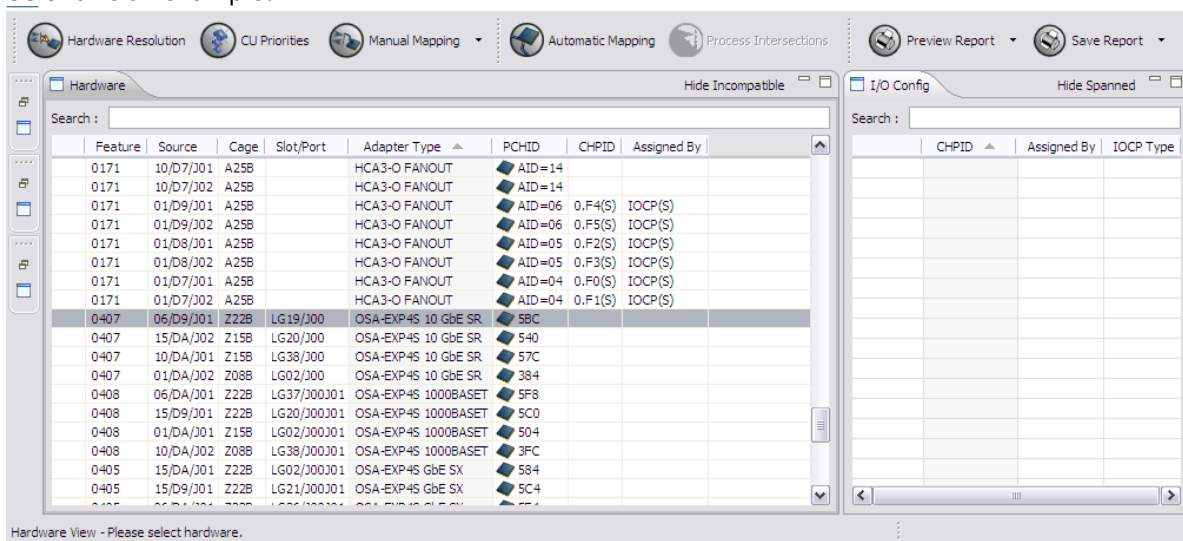

Figure 108. CHPID column is blank - no selections in I/O Config
- b. If the CHPID column is blank, no selections are available in the I/O Config pane. Figure 108 on page 88 shows an example: